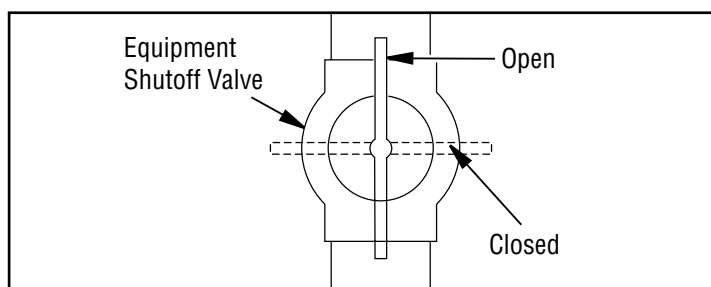

Figure 30 - Equipment Shutoff Valve
1. Close equipment shutoff valve (see **Figure 30**).
1. Open equipment shutoff valve (see **Figure 30**).